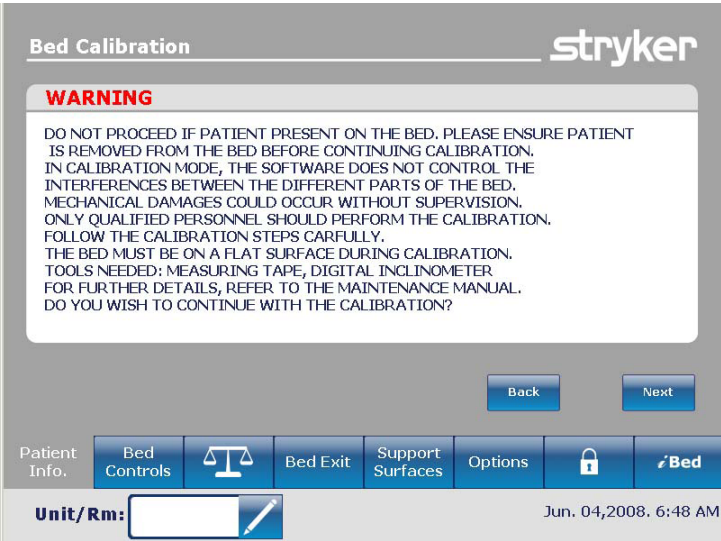

Figure 4: Bed Calibration - WARNING
Refer to Figure 4 for WARNING details
- 2. After pressing the Bed Calibration button, Figure 4 will be displayed. Press 'YES' to continue with calibration.